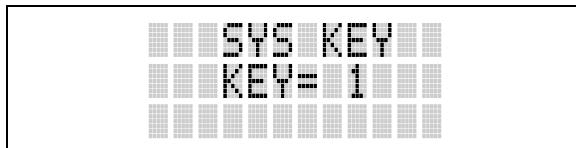
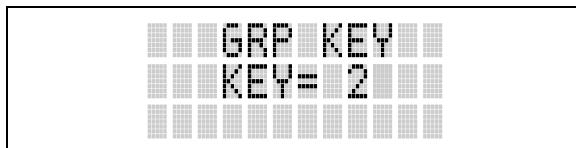

Figure 8-9: System Encryption Key Display
Figure 8-10: Group/Channel Encryption Key Display
3. Use the **▲** or **▼** button to toggle between displaying the system key (Figure 8-9) or the group/channel key (Figure 8-10).